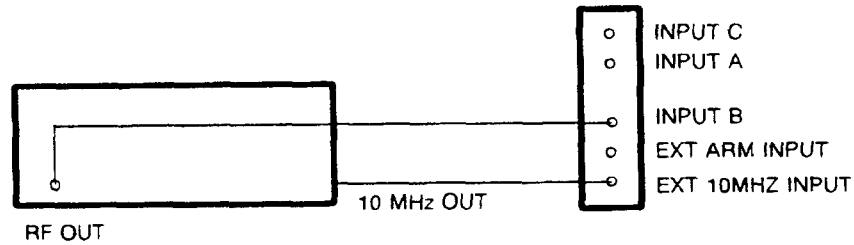

Figure 5-4. Input B High Frequency Sensitivity Test Configuration
5. Connect the Signal Generator to the VX4223 as shown in Figure 5-4.